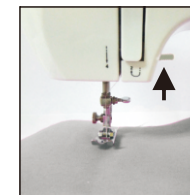

Fig.11
2. Raise the presser foot lifter and place the fabric you want to sew under the presser foot (Fig. 11).